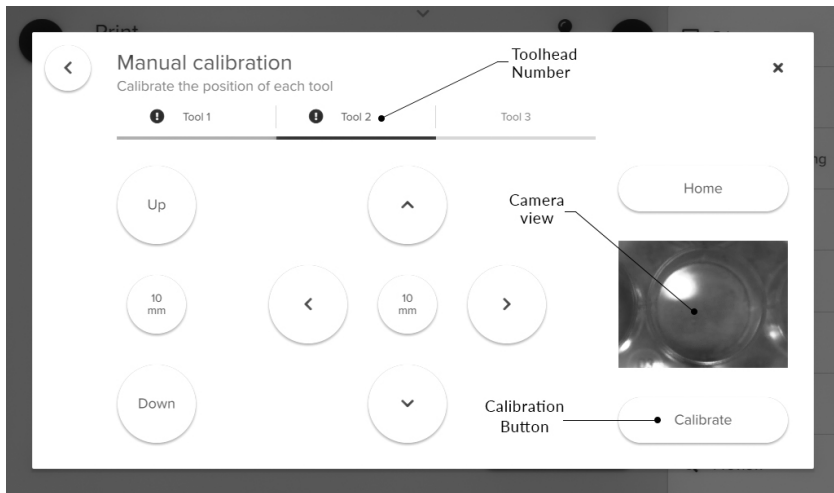

Figure 9: Calibration of the HD Camera Toolhead.
5. When the HD Camera Toolhead is selected, the Calibration tab will show the camera feed (Figure 9).